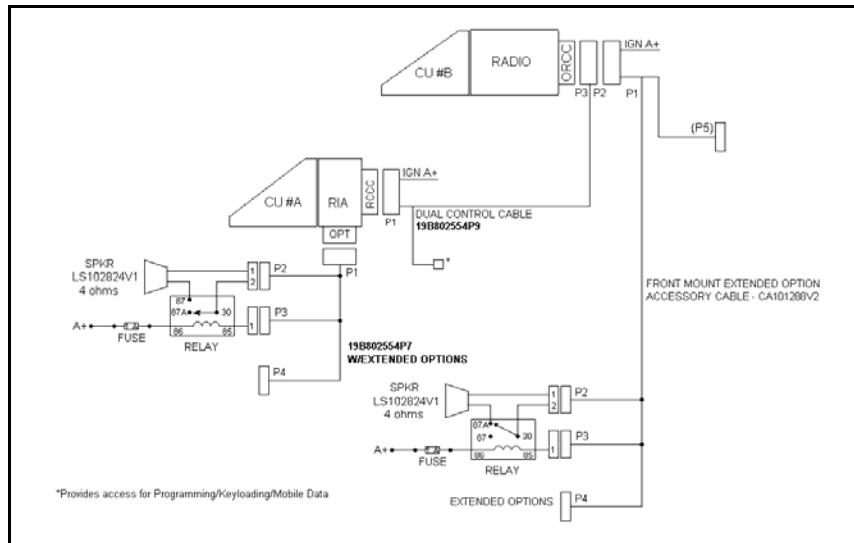
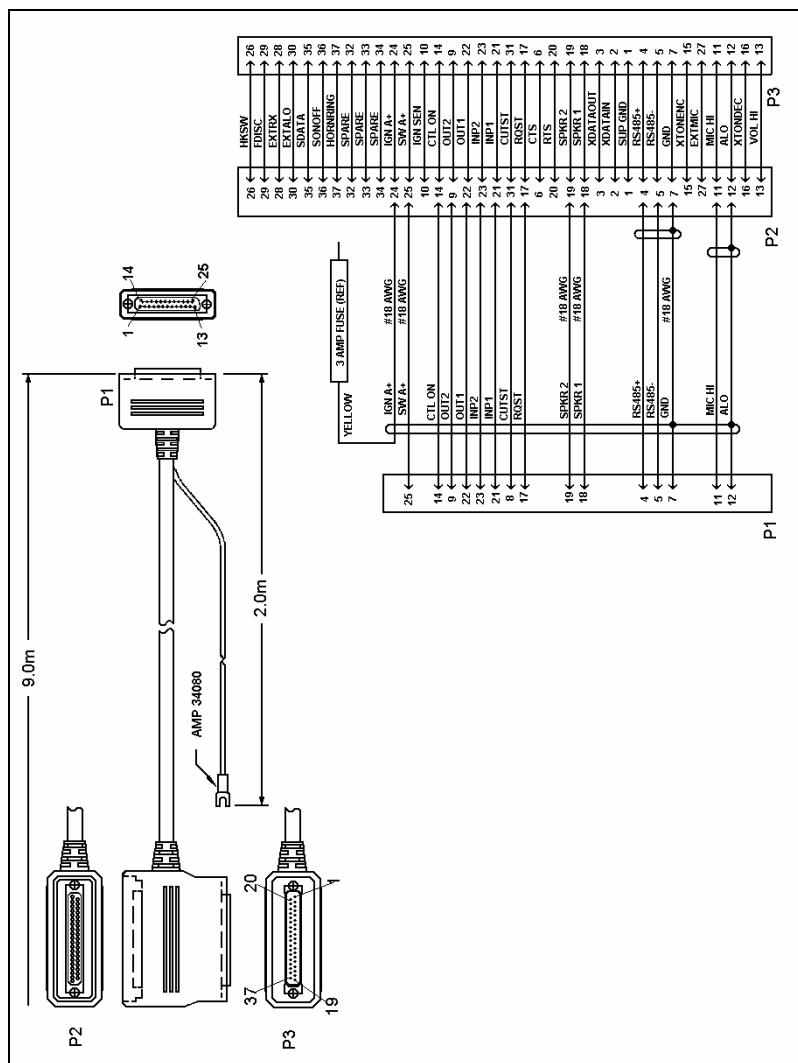

Figure 11-6: M7100 Dual Control Unit Front/Remote Mount Installation Configuration
Figure 11-8: Dual Control Cable 19B802554P9
1. Referring to Figure 11-6, run the Dual Control Cable (19B802554P9 – see Figure 11-8) between locations for the Radio Unit and Auxiliary Control Unit. Be sure to locate the P2/P3 connector assembly at the Radio Unit.
- B. Hardwire each speaker directly (without relays) as shown in Figure 11-6.
9. Radio Unit Speaker: Connect the lead nearest the speaker to **Pin 87A** of the relay. Connect the lead nearest the connector to Pin 30 of the relay. Connect the connector to the Accessory Cable P2 (refer to Figure 11-6).
10. Auxiliary Control Unit Speaker: Connect the lead nearest the speaker to **Pin 87** of the relay. Connect the lead nearest the connector to Pin 30 of the relay. Connect the connector to the Accessory Cable P2 (refer to Figure 11-6).
11. For each relay: Connect a #18 AWG black wire between the relay, Pin 85 and Accessory Cable P3-1 (labeled “**OUT2**” on the schematic diagrams in the service manual). Use a 1/4" tab receptacle on the relay side and mating Molex connector and pins on the accessory cable side. Connect the mating Molex connector to the Accessory Cable P3 when finished (refer to Figure 11-6).
12. For each relay: Connect a #18 AWG red wire to the relay, Pin 86. Cut to length, and connect to the 1A fuse holder (supplied). Use crimp on connectors supplied. Connect the other side of the 1 amp fuse holder to A+ battery source or vehicle A+ fuse block. Use #18 AWG red wire and ring lug supplied, if needed (see Figure 11-6).
2. Run the Dual Control Cable (19B802554P9 – see Figure 11-8) between locations for the Radio Unit and Auxiliary Control Unit. Be sure to locate the P2/P3 connector assembly at the radio unit.